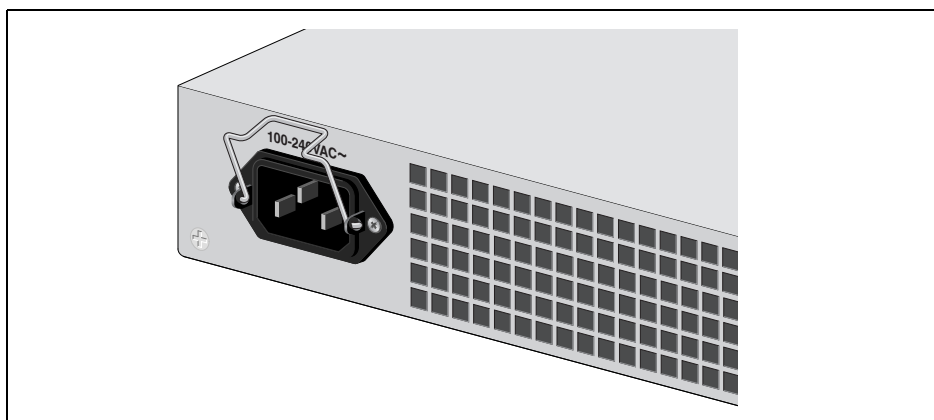

Figure 17. Power Cord Retaining Clip in the Up Position
1. Position the power cord retaining clip in the up position, as shown in Figure 17.